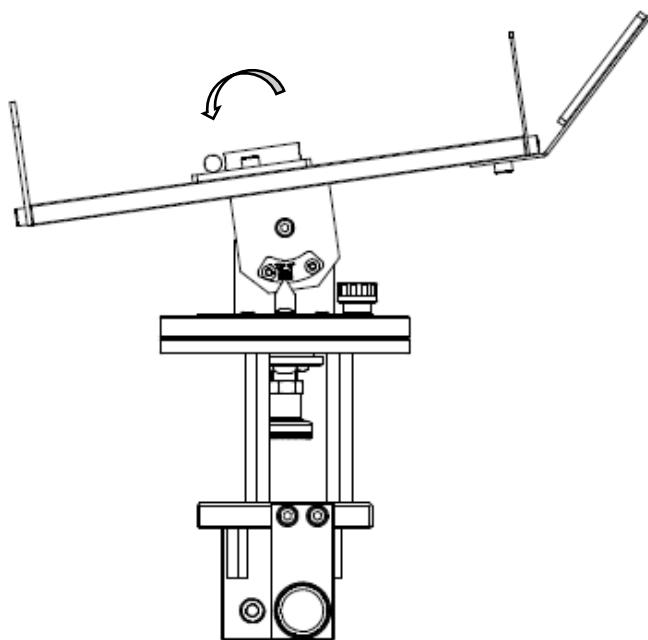

Figure 7: vertical adjustment setting
- Tilt the optical device to the required vertical angle (fig. 7).